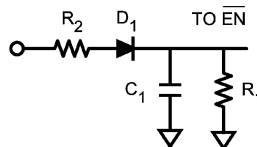
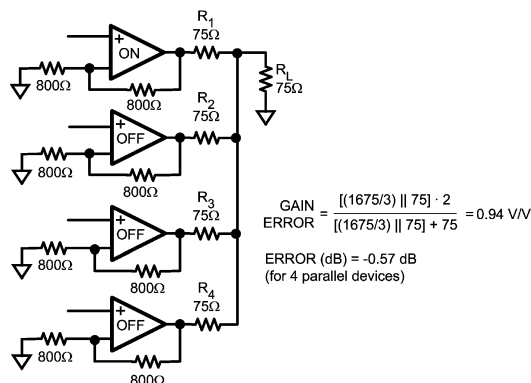

Figure 5. Delay Circuit Implementation
Figure 6. Multiplexer Input Expansion by Combining Outputs
If it is important in the end application to make sure that no two inputs are presented to the output at the same time, an optional delay block can be added prior to the ENABLE(EN) pin of each device, as shown. Figure 5 shows one possible approach to this delay circuit. The delay circuit shown will delay ENABLE's H to L transitions (R_1 and C_1 decay) but will not delay its L to H transition.
With the ENABLE pin putting the output stage into a high impedance state, several LMH6572's can be tied together to form a larger input MUX. However, there is a slight loading effect on the active output caused by the off-channel feedback and gain set resistors, as shown in Figure 5. Figure 6 is assuming there are four LMH6572 devices tied together to form a triple 8:1 MUX. With the internal resistors valued at approximately 800 Ω , the gain error is about -0.57 dB, or about -6%.